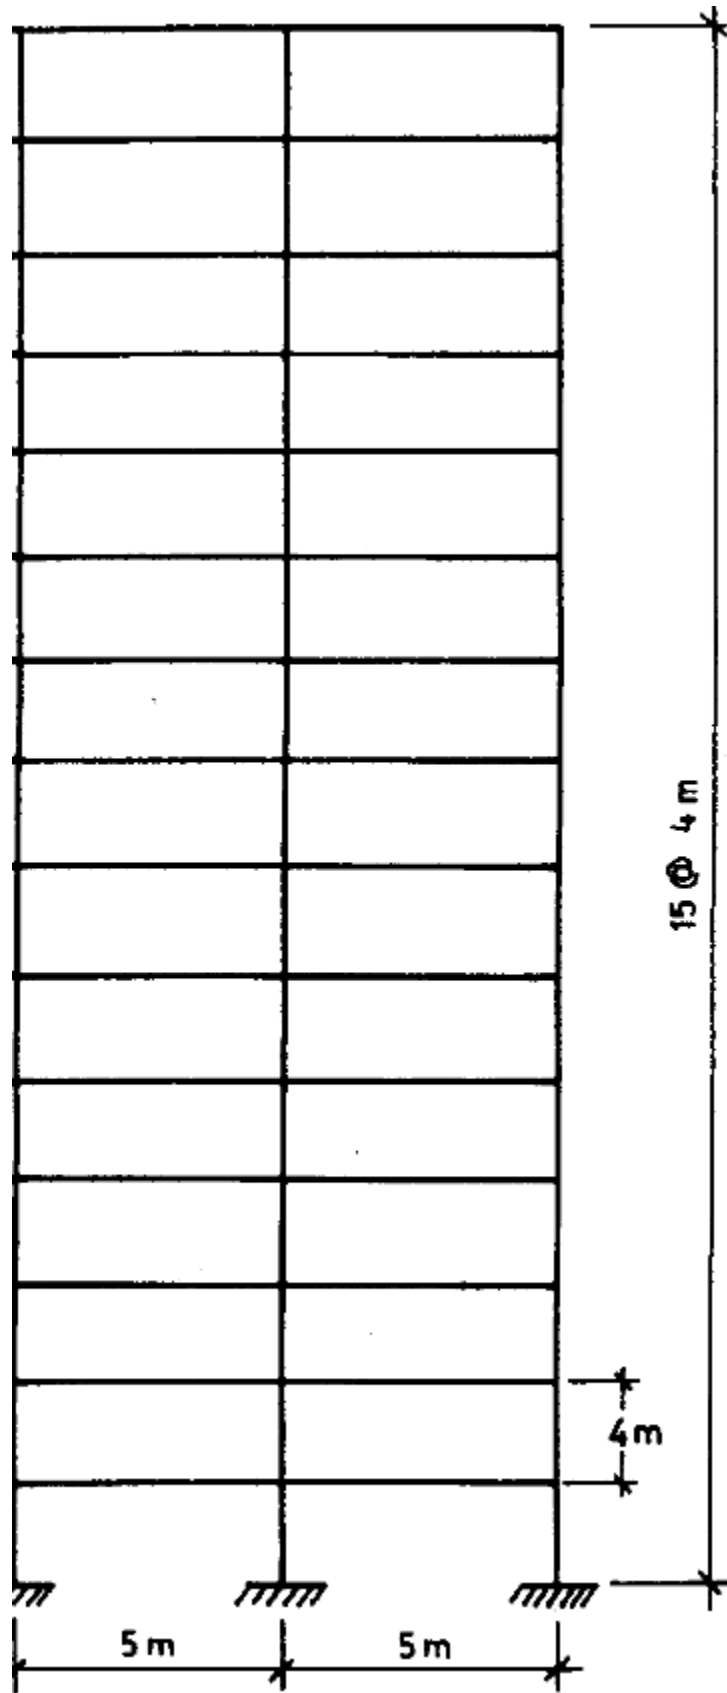

Fig. 1.4 A multi-storeyed building frame
Q.2. A multi-storeyed frame building as shown in Fig.1.4. Spacing of frame is 6m along the length. Assume building is located in Mumbai with terrain category 3. The topography is flat that is upwind slope $< 3^\circ$. The life of the structure is 50 years. Calculate the wind load at different floor levels using IS 875 part-3:2015.